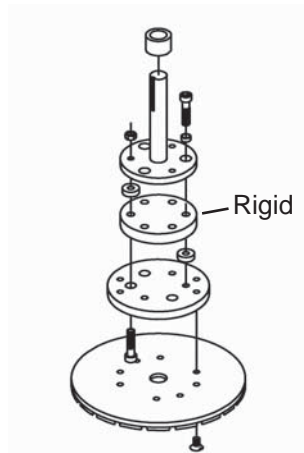

Figure 9
- Each new machine is shipped with a RIGID HEAD (FLEX HEAD OPTIONAL) 10"/255 mm factory balanced disk. It is important to maintain the coupling to which the disk is attached. A worn coupling, damaged bearings or a bent shaft will cause the grinding discs to wear unevenly. (Figure 9 rigid head assembly & 9A flex head assembly.) It is important to note FLEX HEAD for smooth flat surfaces, RIGID HEAD for buckled, bumpy or rough surfaces.